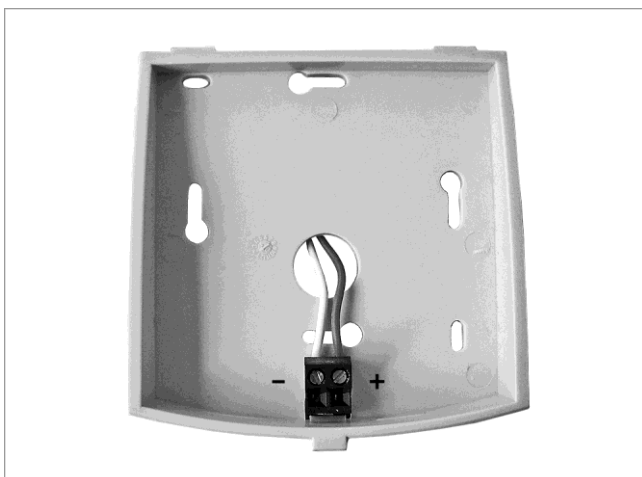

Fig. 111: Connect the room controller
1. Connect the connection line to the two-pole terminal of the room controller, observing the polarity (see → *fig. 111*).